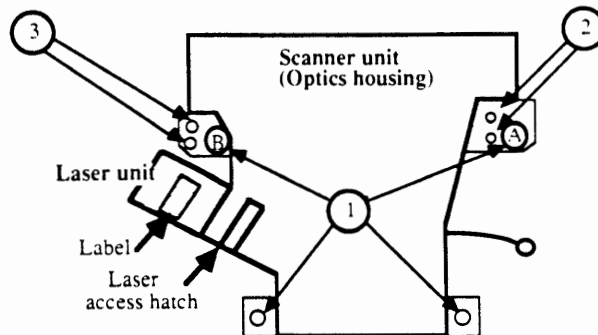

FIGURE 3-7
5. To make the scanner unit movable, loosen the four large mounting screws (Figure 3-7, #1) and the two sealed screws closest to the laser (Figure 3-7, #3).
6. Rotate the scanner unit around screw A (Figure 3-7): rotating the unit clockwise makes the horizontal line incline counterclockwise, and vice versa.
8. Tighten the two sealed screws you had loosened earlier (Figure 3-7, #3) and loosen the two sealed screws on the other side of the scanner unit (Figure 3-7, #2).
9. Rotate the scanner unit around screw B (Figure 3-7): rotating the unit clockwise makes the horizontal line incline counterclockwise, and vice versa.